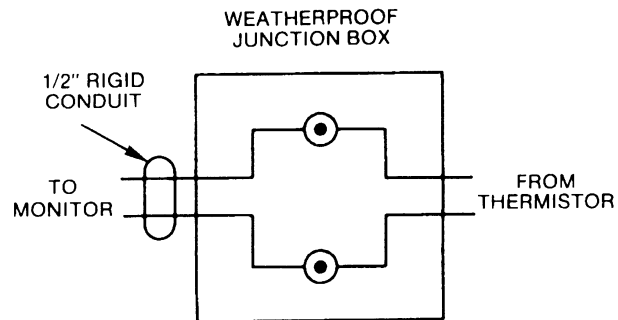

Figure 10. Thermistor Field Wiring Diagram
2. Using wire nuts, connect the wires from the thermistor to field wires in the junction box (see Figure 10).